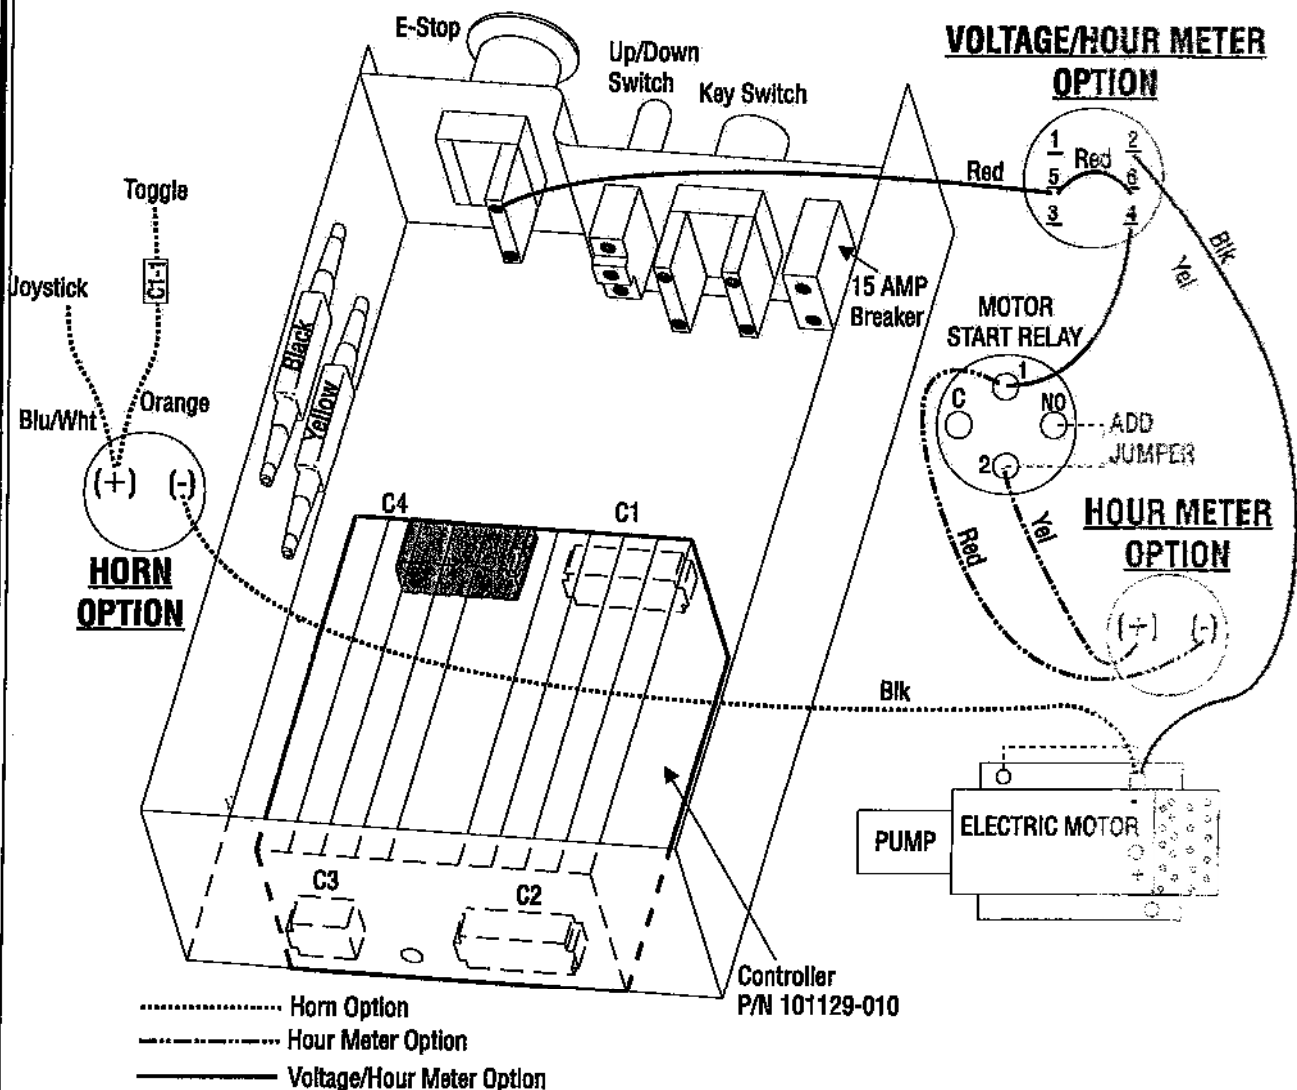

Figure 2
10. If options are installed on the machine, wire them as shown in Figure 2.